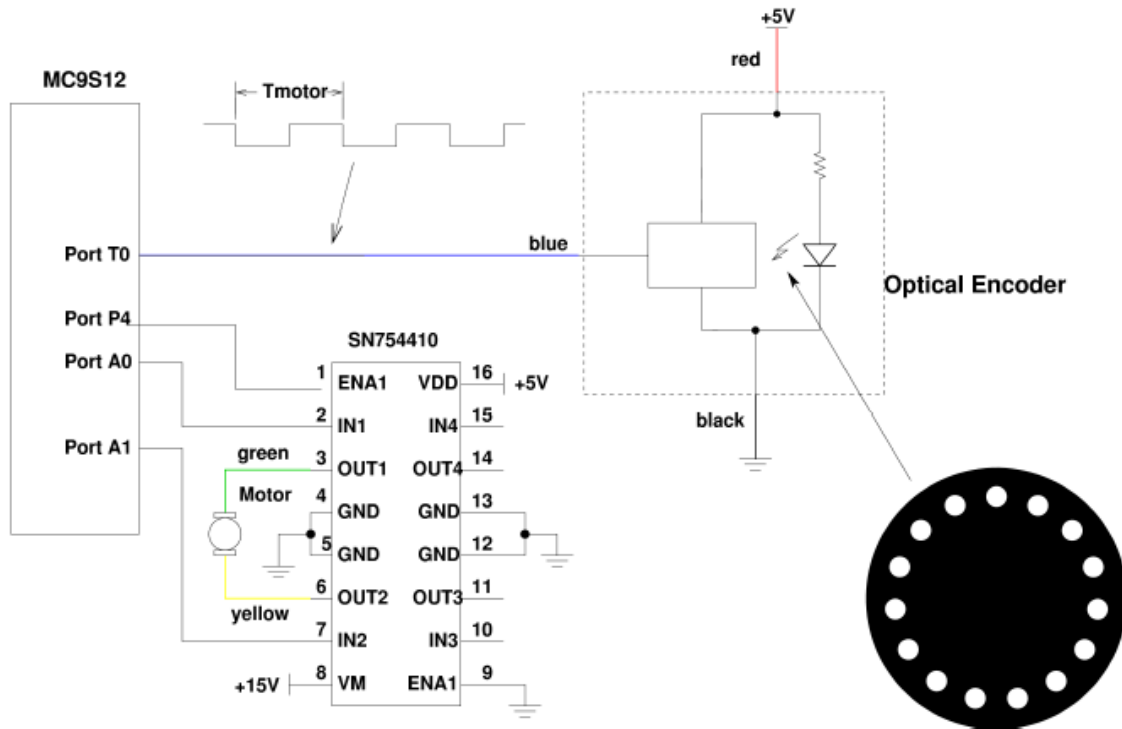

Figure 1: Using a PWM signal to adjust the speed of a motor.
The speed of a motor can be adjusted by powering it with a pulse width modulated signal. Figure 1 shows how this can be done. The SN754410 motor controller works as a switch. When the signal on the enable (EN1) input of the L293D is high the switch is closed, current flows through the motor, and the motor speeds up. When the signal is low, the switch is open, no current flows, and the motor slows down. IN1 and IN2 determine the direction of the motor. When IN1 is high and IN2 is low, OUT1 will be high (VM) and OUT2 will ground. Changing the logic levels of IN1 and IN2 reverse the voltage levels on OUT1 and OUT2, and the motor changes direction. With a high enough frequency PWM signal the amount the motor speeds up and slows down in one period is negligible, and the motor turns at a constant speed. By adjusting the duty cycle the speed of the motor can be controlled. For the motors you will be using in this lab, use a PWM frequency of about 5 kHz.
2. Program your MC9S12 to generate a PWM frequency of 5 kHz, with an active high PWM signal with a duty cycle of 50%. (Use Bit 4 of the PWM, since Bits 0 through 3 of Port P are used to enable the seven-segment LEDs.) Make Bit 0 of Port A high, and Bit 1 of Port A is low. Connect the circuit shown in Figure 1. Use your logic probe to verify that the optical encoder is working.